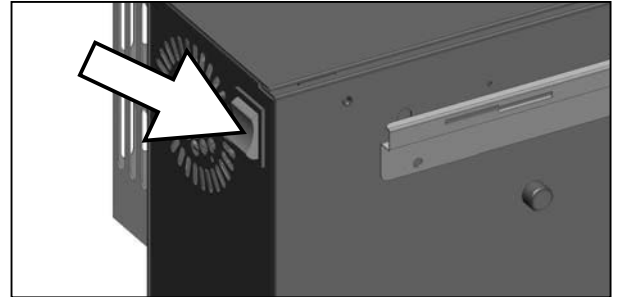

Fig. 21 Mains switch
- ▶ To start operating, switch on the cooling unit on the mains switch (Fig. 21).